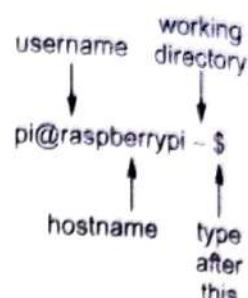

Fig. 6.2.3 : Command prompt
- The default command prompt on the Pi consists of four components shown in Fig. 6.2.3.